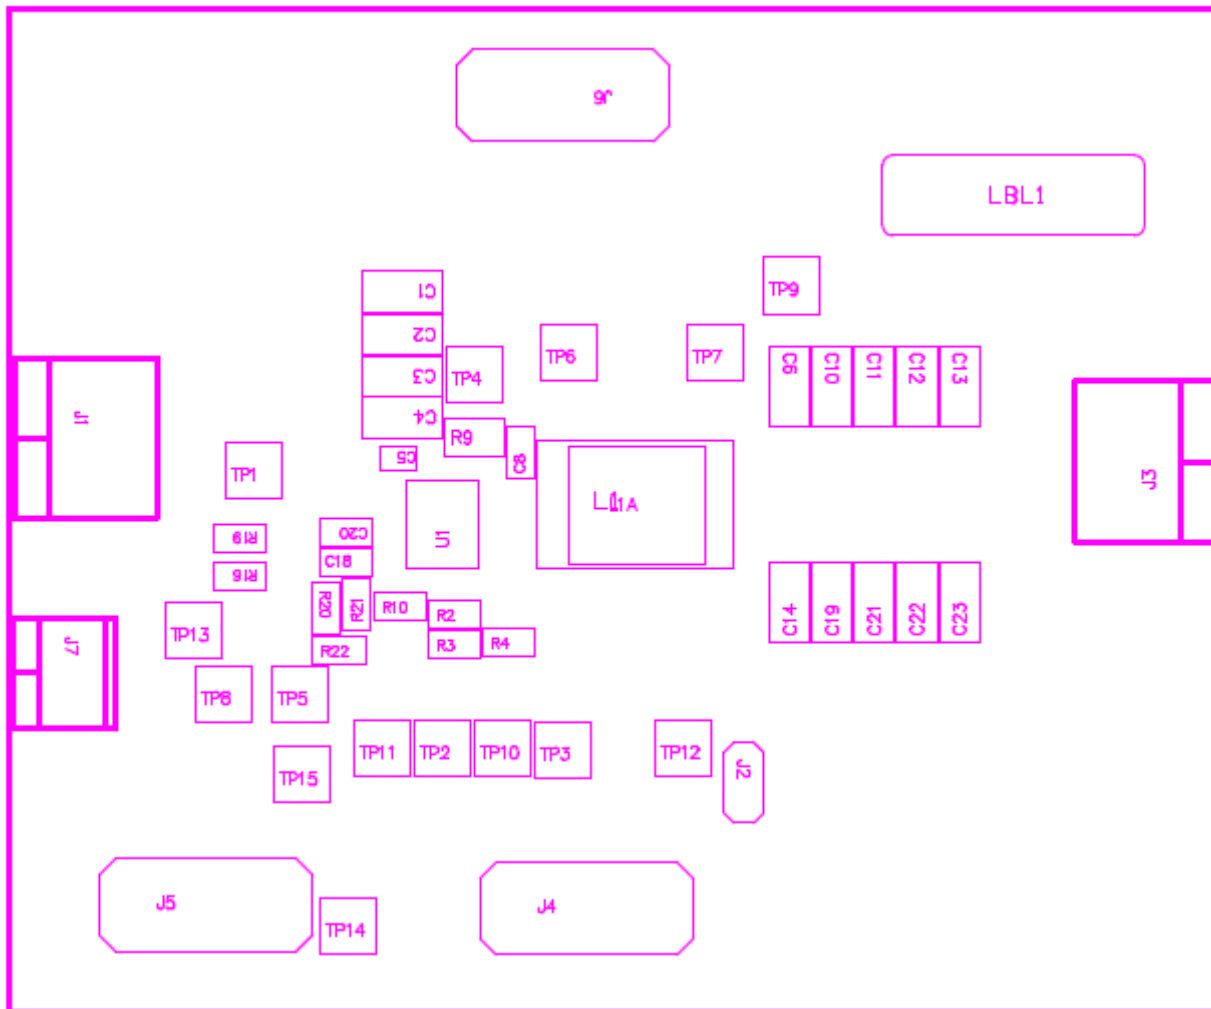

Figure 3. TPS548A20EVM-587 Top Layer for Test Setup
Voltage Source—The input voltage source V_{IN} must be a 0 to 14-V variable-DC source capable of supplying 10 ADC. Connect V_{IN} to J1 as shown in Figure 3.
1. Prior to connecting the DC input-source, VIN, TI recommends to limit the source current from VIN to 10 A maximum. Ensure that VIN is initially set to 0 V and connected as shown in Figure 3.
1. Set up the EVM as described in Section 5 and Figure 3.